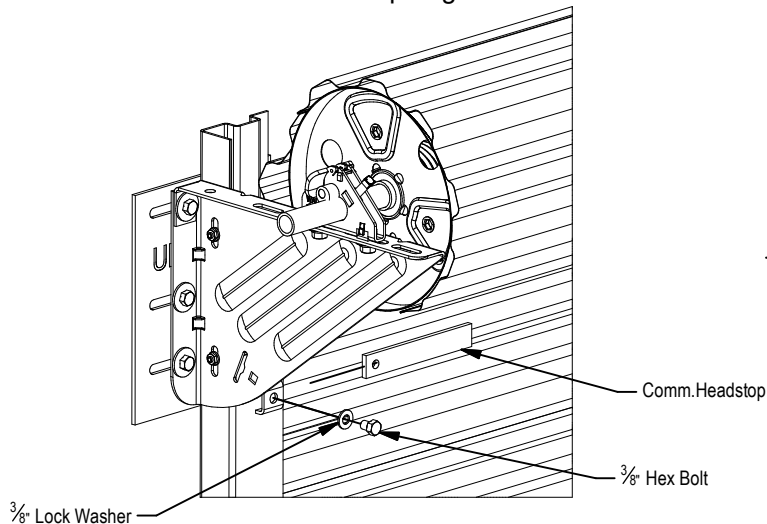

FIGURE 21:
- ▶ Slide head stop from outside of each guide. **See Figure 21.**